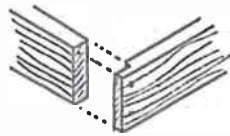
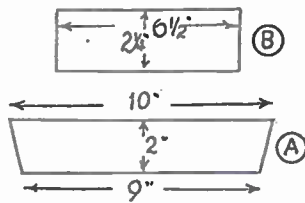

Fig. 2
Fig. 1
From the drawings, the rack will be seen to consist of a tray-shaped base, with rising sides, quite simple in fact. Parts of the tray are detailed in Fig. 1. Cut two each of sides (A) and ends (B). The sloping ends of the sides are rebated to half thickness, to receive the end parts, as in Fig. 2. Now plane the top and bottom edges of the ends, which obtrude themselves owing to the slope, level with the sides.